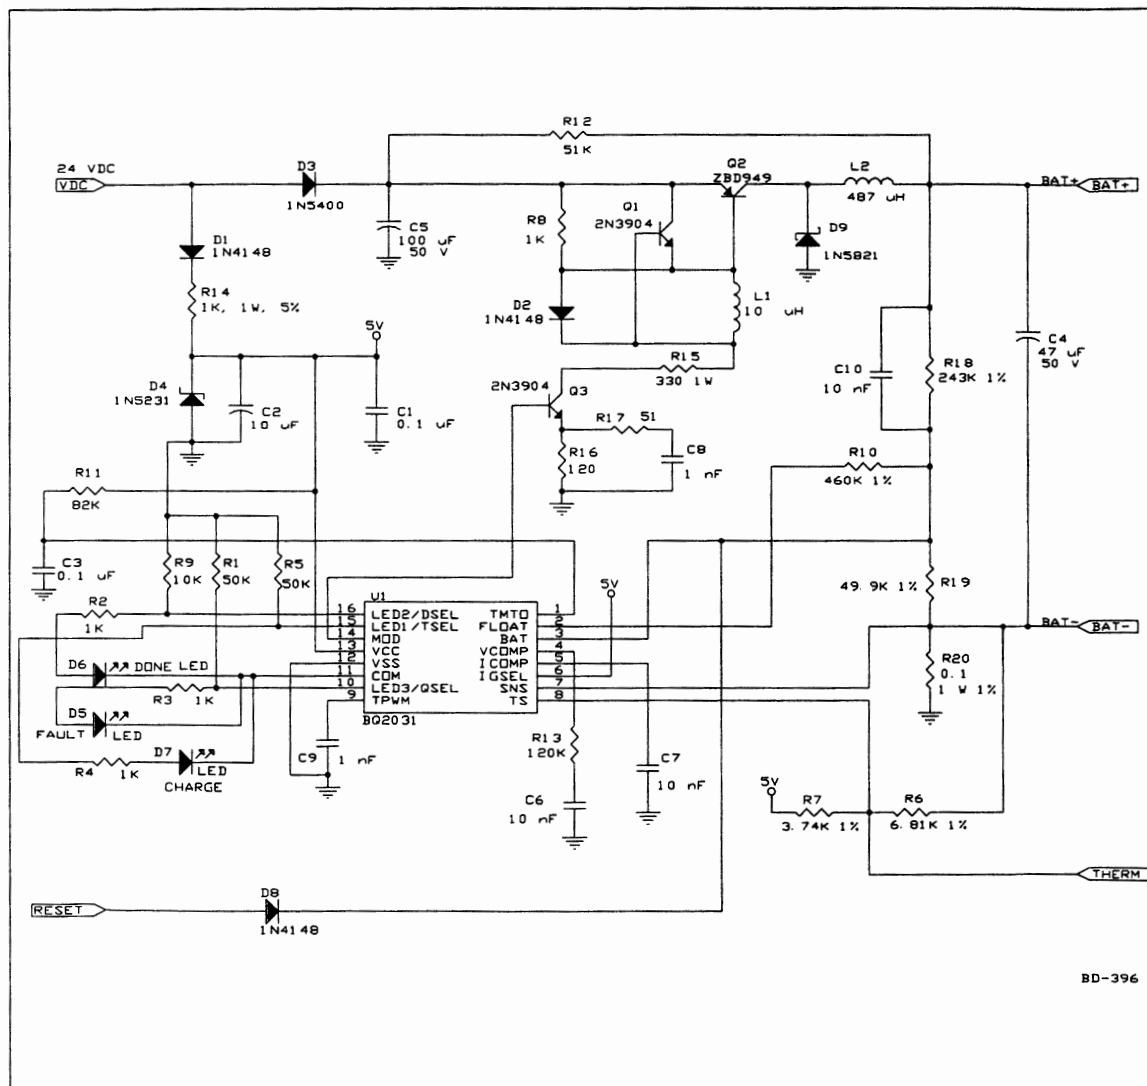

Figure 15. Example Schematic of a Single-Ended Buck Topology Charger Using the bq2031
6. **Minimize** loop area in paths with high pulsating currents. In the example in Figure 15, this loop is fanned by D9, Q2, and C5.
Voltage regulation occurs during phase 2 of the Two-Step Voltage fast charge algorithm and in battery qualification test 1 which precedes all three algorithms. The time-out period of this test ( $= 0.02 \cdot MTO$ ) is at least 1.2 minutes and may be as long as 28.8 minutes. Unless waiting through this period before detecting battery removal is acceptable, the pull-up is required in the purely current regulated algorithms as well. A diode should also be installed in the path of the pull-up to prevent the power supply from draining the battery when the supply is turned off. Refer to resistor R12 and diode D8 in the example design in Figure 15.
The final schematic (see Figure 15) uses a low VCE (sat), high-gain, high-bandwidth PNP transistor (Q2) as the switching device in a single-ended buck topology powered from a DC supply of 24 V.